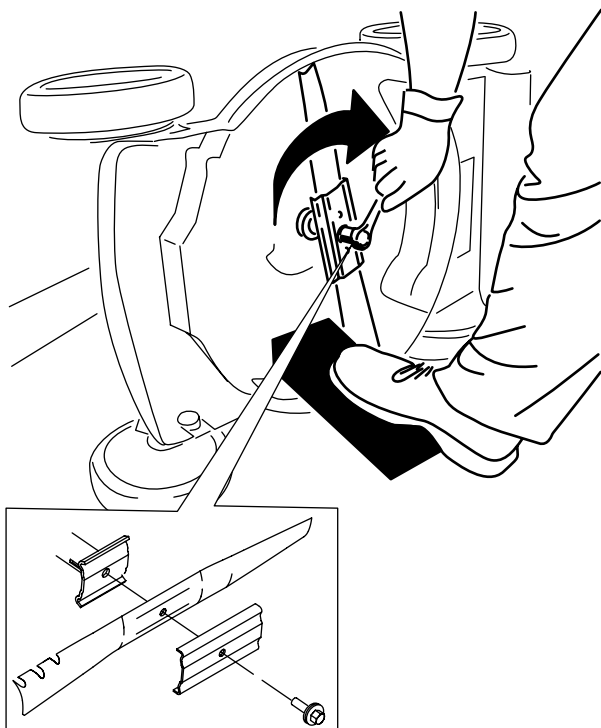

Figure 26
4. Install the new blade and all mounting hardware (Figure 26).